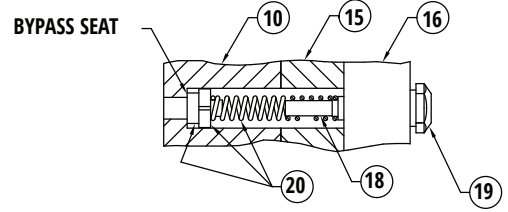

FIGURE 3
5. Install two Dowel Pins (14) into Body (10) and slip the Cavity Plate (15) over the Dowel Pins (14) against the Body (10) face. The Cavity Plate (15) will fit properly in only one orientation. The Screw holes in the Body (10) and Cavity Plate (15) must align.
6. Install Driven Gear Assembly (13) with the longer shaft extension into the Body (10).
7. If pump is furnished with a Bypass, install Bypass Adjusting Screw (18) through the Bypass Nut (19) and turn clockwise until the Bypass Adjusting Screw (18) is flush with the Bypass Nut (19). Attach Poppet Assembly Spring (20) onto Bypass Adjusting Screw (18).
8. Align Cap (16) with the Driving (12) and Driven (13) Gear Assembly shafts and Dowel Pins (14). Assemble carefully and make certain the Poppet Assembly (20) goes fully into the Poppet hole and seats. See Figure 3.
9. Install two Cap Screws (17) in Cap (16) and torque alternately to 320 in/oz. Torque to 640 in/oz for PTFE O-Rings.
10. Rotate the Driven Magnet (7) by hand to check for any binding during rotation. The Driven Magnet (7) should turn freely. If there is binding determine and remove cause.
11. Install Magnet Cup (4) and Mounting Plate (2) with six Mounting Plate Screws (1). Turn alternately until tight to 320 in/oz.
12. Assemble Pump-Head to Motor and Drive Housing with three Mounting Screws (3). Pump/Motor assembly is now complete.